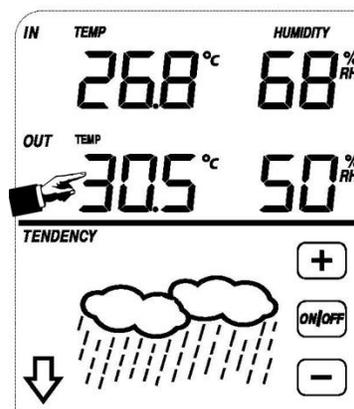

Figure 10
1. Touch the outdoor temperature once, as shown in Figure 10. The outdoor temperature will begin flashing and the  button and  button will be flashing (in the tendency section of the display).
1. Touch the wind speed once, as shown in Figure 10. The wind speed will begin flashing and the button and button will be flashing (in the tendency section of the display).